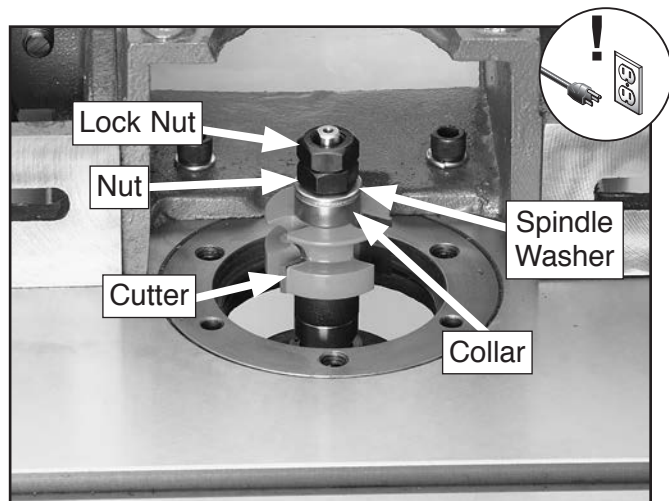

Figure 36. Cutter and fasteners.
6. Place a spindle washer above the cutter and screw on the nut and locknut, as shown in **Figure 36**.